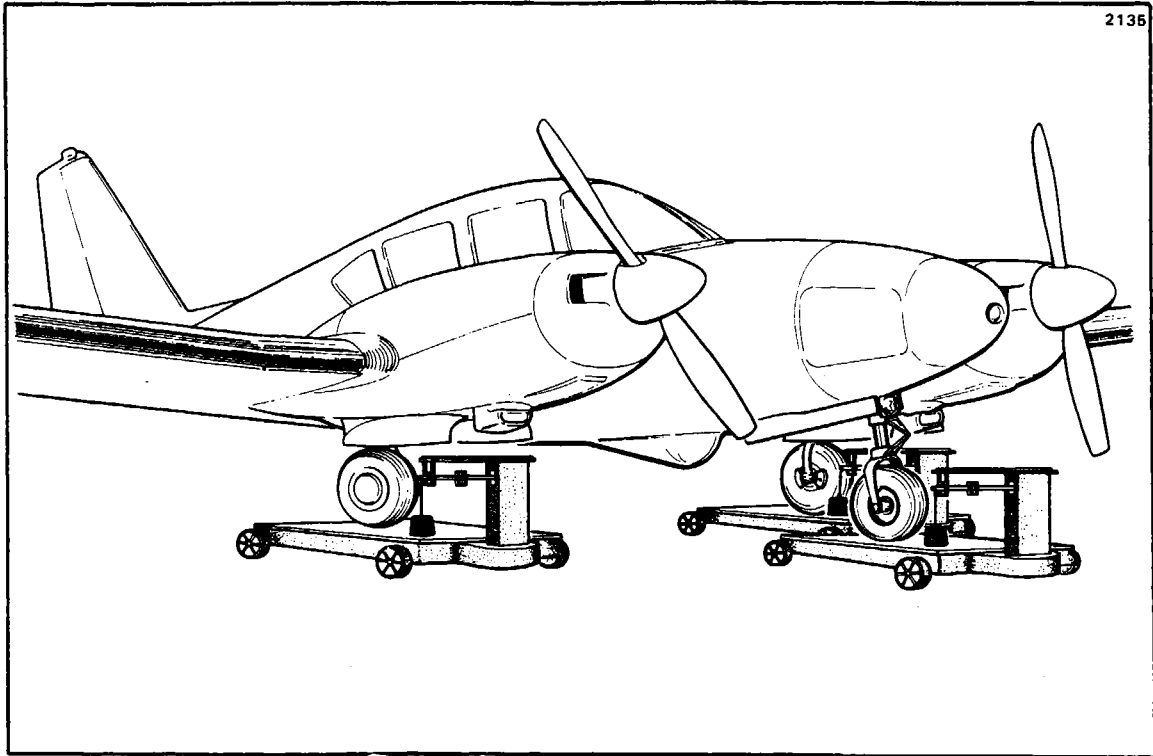

Figure 2-12. Weighing
**2-13. WEIGHING.** (Refer to Figure 2-12.)